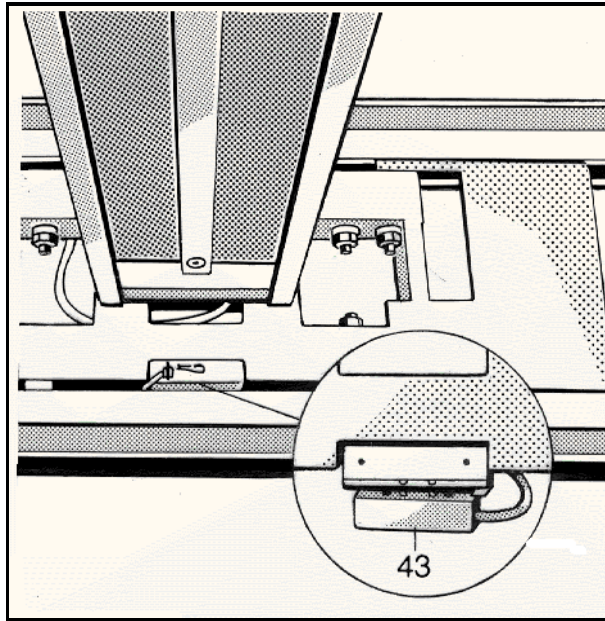

Fig. 29
- * Switch on unit, check function of brake (Fig. 29/item 43). Adjust if necessary. To do so, loosen lock nut, turn threaded pin accordingly and lock again.